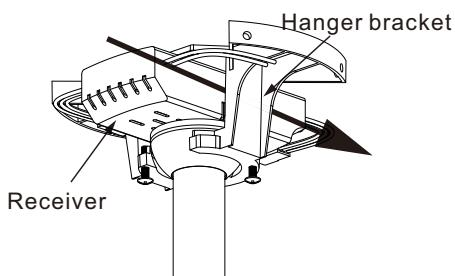

Figure 15
Step 1. (Fig. 15) Insert the receiver into the hanger bracket with the flat side of the receiver facing the ceiling.